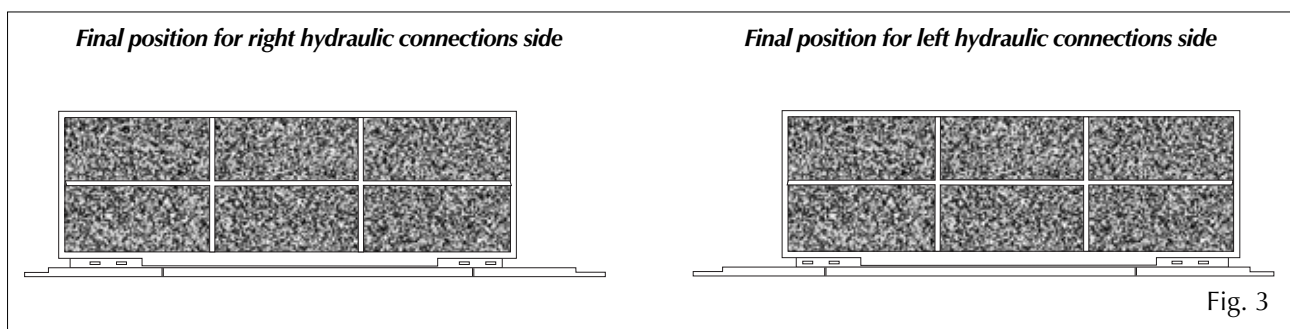
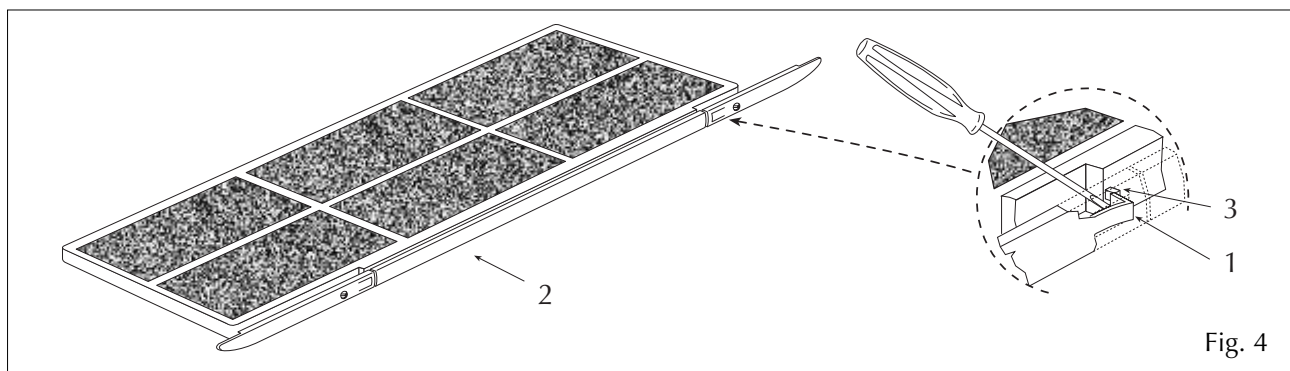

Fig. 3
Fig. 4
- remove the coil cover sheet (4) by removing the screws;
- remove the screws securing the coil (5), then remove it;
- remove the push-outs (6) on the right side;
- rotate the coil (5), then secure it in the new position with the screws previously removed;
- remount the coil cover sheet (4) and secure it with screws, then insert the plastic plugs (7) supplied in the openings left free by the hydraulic connections;
- all trays are designed to collect condensate on both sides. In the case of vertical installation, for condensate drainage on the right side, position the drainage union to the right (8).
- to move condensate drainage to the right of the unit, reverse discharge of the tray (3) (if present), then transfer the drainage line (8) to the right;
- slide out the electrical connections from the right side, remove the push-out, then transfer the cable guide (9) from the right to the left side;
- transfer the electrical connections to the left side through the cable guide (9);
- move the terminal block (10) and the ground jumper connection (11) to the left side of the unit;
- modify the air filter to the new configuration by changing the position of the external support in relation to the filter frame (Fig. 3); press down on the tab (12 Fig. 4) with a screwdriver while moving the external support (13) until the tab is over the tooth (14). Release the tab when the position between the support and the filter is as shown in Fig. 3.